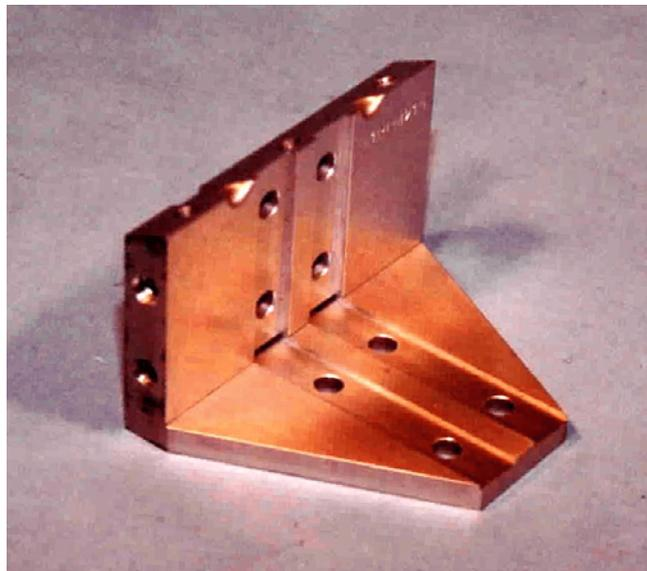

Figure 11.5- Rear Plate attached to Bottom Plate
3. Attach the Rear Plate (T1PLM214) to the Bottom Plate (T1PLM212) using three #8-32 x 1/2" FHSCS {3/32}, as shown in **Figure 11.5**.